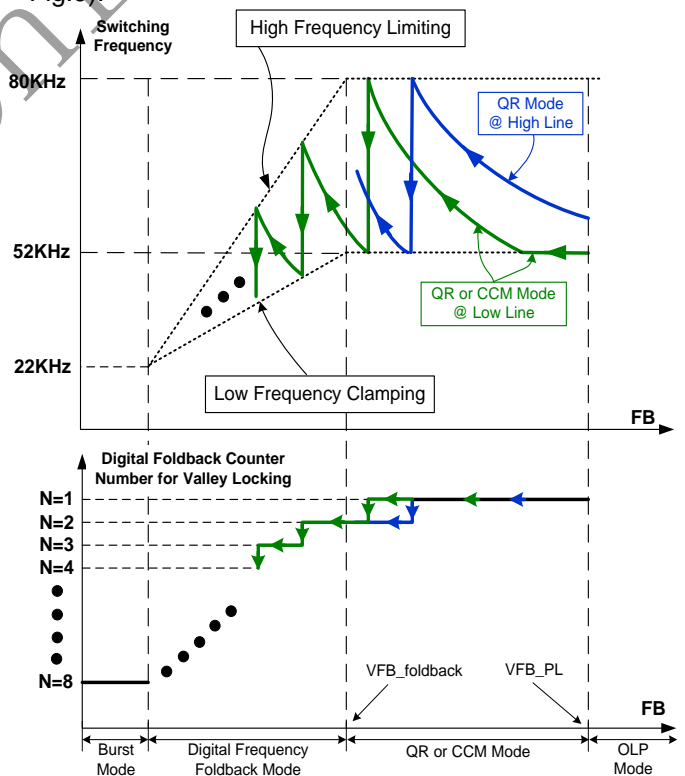
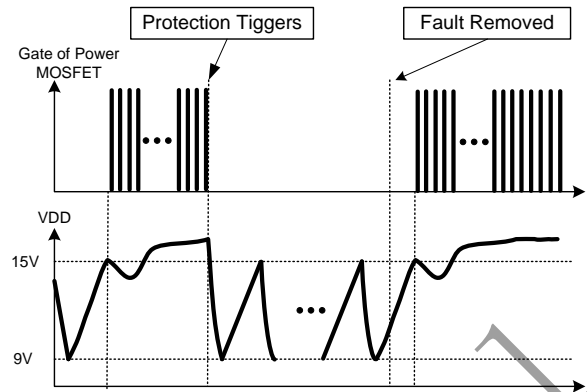

Fig.3
Fig.8
■ At normal or full loading conditions, the operating mode is CCM when the input is in low line range since the low clamping frequency (52KHz typical) is touched. Thus, small size transformer can be used with high power conversion efficiency. When the input is in high line input range, the IC work in QR mode with high frequency clamping (typical 80KHz), as shown in Fig.3. When FB voltage is larger than VFB PL, the system enters into OLP mode with auto recovery protection (as illustrated in Fig.8 and Fig.9).
■ At light loading conditions (FB voltage is below VFB_foldback), the IC works in “**Digital Frequency Foldback**” mode. The system frequency is limited between “High Frequency Limiting” and “Low Frequency Clamping”, as shown with the dashed line in Fig.3. In “**Digital Frequency Foldback**”
As shown in Fig.8, once a fault condition is detected, switching will stop. This will cause VDD to fall because no power is delivered from the auxiliary winding. When VDD falls to UVLO(off) (typical 9V), the protection is reset and the operating current reduces to the startup current, which causes VDD to rise, as shown in Fig.8. However, if the fault still exists, the system will experience the above mentioned process. If the fault has gone, the system resumes normal operation. In this manner, the auto restart can alternatively enable and disable the switching until the fault condition is disappeared.